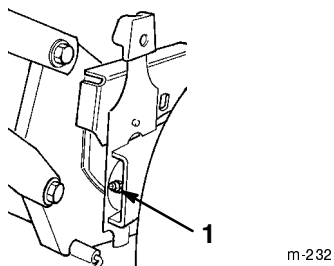

Figure 26
2. Wipe the grease fittings with a clean rag (Fig. 26).
3. Install a grease gun onto the fitting and gently apply two or three pumps of #2 multi-purpose lithium base grease (Fig. 26).